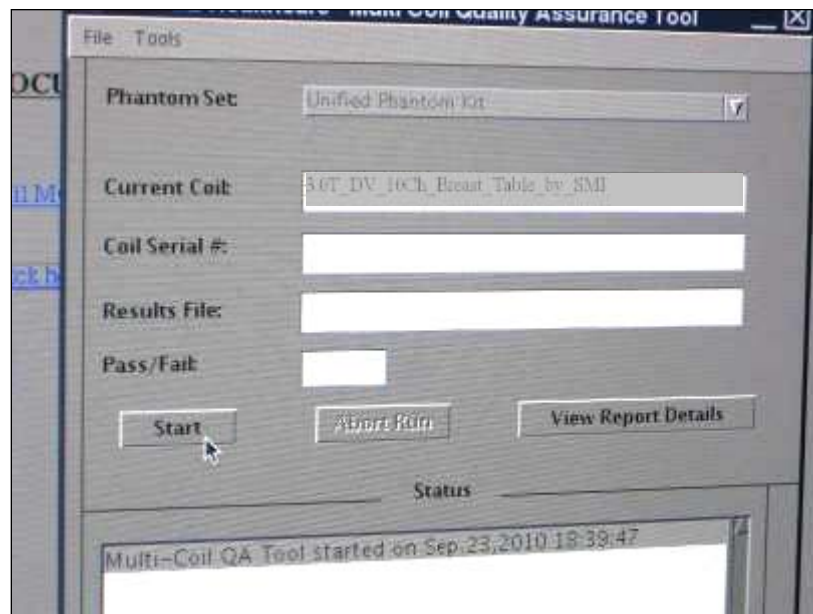

Figure 33: Screen Capture – MCQA Tool Start
6. Do not start a new patient; open the Tools box, and start MR Service Desktop. Select the top tab marked 'Image Quality.' In the side menu, select 'Multi-Coil QA Tool', then 'Click here to start this tool.' The program shown in Figure 33 will start: